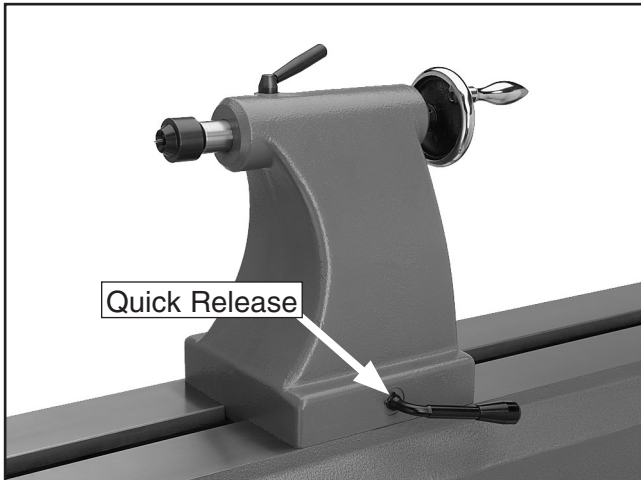

Figure 13. Tailstock controls.
1. Loosen the quick release and move the tailstock to the desired position (**Figure 13**).